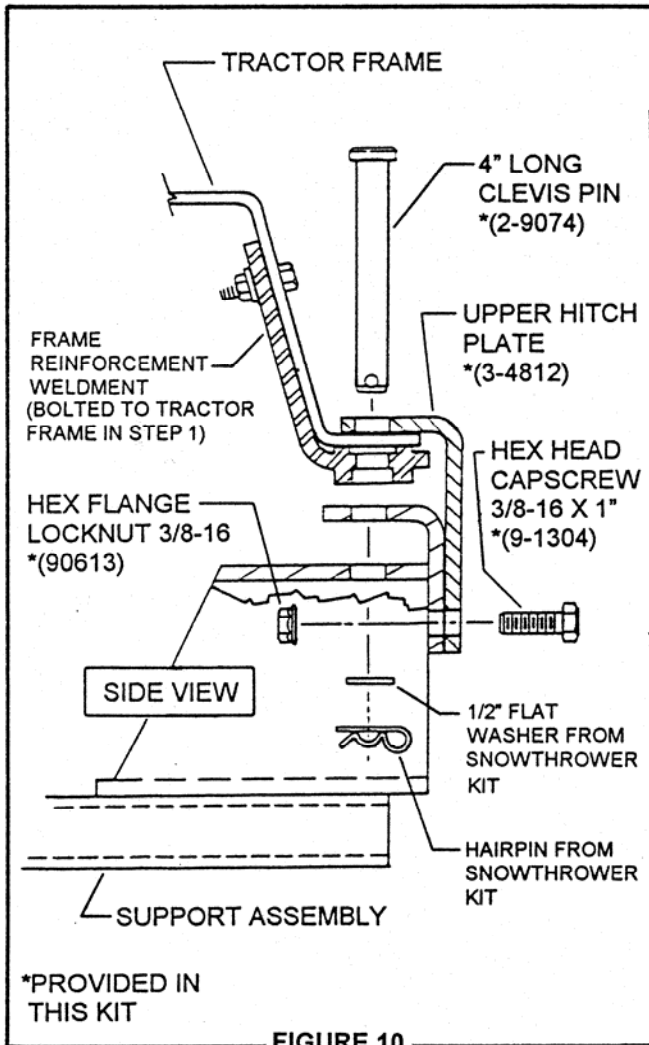

FIGURE 10
STEP 8: (This step is only required for the 16HP, 42" tractor. For all other models proceed directly to step 9). Align the bottom edge of the upper hitch plate (provided in this kit) with the bottom edge of the hitch plate on the support assembly. See Figure 9. Using the upper hitch plate as a template, drill two 3/8" holes into the support assembly. Install upper hitch plate with the hardware provided in this kit and shown in Figure 10.
STEP 9: The hitch should now be installed to the tractor frame as shown in Figure 10.